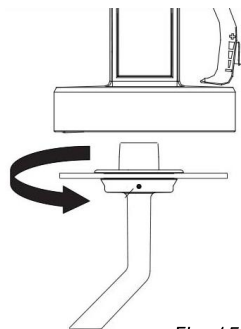

Fig. 15
1. Screw off the container and the suction tube with container seal (Fig. 15).